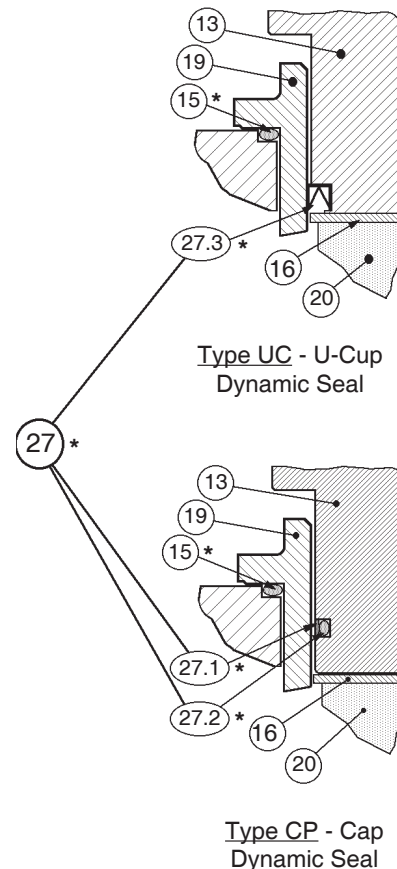
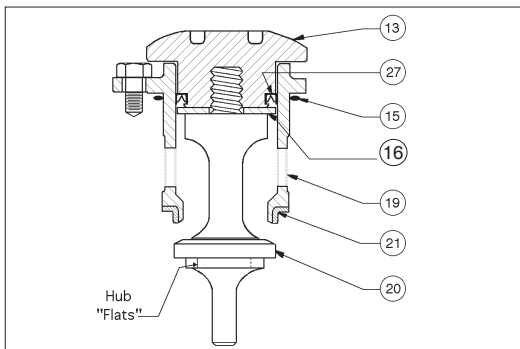

Figure 1: Dynamic Side Seals
Figure 2: Assembled ITA, with "UC" Dynamic Side Seal
6. A detailed view of the dynamic side seal parts is shown in Figure 1; an assembled ITA in Figure 2; and a cross-sectional drawing of the entire regulator is shown in Figure 3.
1. To Disassemble the ITA (See Figure 2):
- a. Hold the lower part of the valve plug (20) in a bench vise; grasp in "smooth jaws" directly under plug's (20) seating disc portion on hub "flats" provided. Do not hold on the machined surface in the plug's (20) spindle area.
- b. Using a special double-posted spanner wrench fitting, (to order see NOTE in Section IX Parts Ordering Information), turn the piston-guide bearing (13) CCW to loosen. The piston-guide bearing (13) may be removed by hand after loosening.
- c. Remove ITA from vise. Pull the valve plug (20) down and out through the cage's (19) bottom opening.
- d. Examine the components (27.1, 27.2, 27.3) of the dynamic side seal (27) mechanism to determine if significant leakage was occurring. If the dynamic side seal shows signs of significant leakage, determine if operating conditions are exceeding pressure, pressure drop, or temperature limits.
- e. Remove dynamic side seal (27) components and discard. Special care should be taken when using "tools" to remove the components to ensure that no scratches are made to any portion of the piston-guide bearing (13) groove.
- f. Remove the shim (16) from within the cage (19).
- g. Remove seat ring (21); examine for signs of leakage. If seat ring shows signs of significant leakage, determine if operating conditions - pressure, pressure drop, or temperature exceed design limits.
1. Installation of dynamic side seal (27) (See Figure 1):
1. Position u-cup seal (27.3) over lower circumference of piston-guide bearing (13). Ensure the u-cup seal (27.3) is oriented with the center-open-downwards as shown in Figure 1, as the u-cup seal (27.3) depends upon the P1-Inlet pressure to activate proper sealing action.
2. Insert shim (16) into cage (19) and allow to rest inside the cage (19).
3. Position piston-guide bearing (13)
2. Place properly oriented seat ring (21) onto its shoulder at the lower end of cage (19).
- a. Insert valve plug (20) upwards through lower end of cage (19) and through the center hole of shim (16).
- b. Engage valve plug (20) with piston-guide bearing (13) threads and finger tighten.
- c. Place ITA into a vise with smooth jaws and grasp at hub "flats" location on the valve plug (20) that is not in the "spindle" zone. (See Figure 2.)
- d. Using a special double-posted spanner wrench fitting (to order see NOTE in Section IX, Parts Ordering Information), tighten the piston-guide bearing (13) to the valve plug (20) with 30 - 50 ft-lbs (41-69 Nm). Do **NOT** allow valve plug (20) to rotate against seat ring (21) during tightening.
1. Insert the return spring (22) into the body (23).
2. Fit cage O-ring seal (15) into the body (23) groove.
3. With the ITA held manually in the closed position, insert ITA and cage (19) into body (23).
4. Properly align all three cage bolt (18) holes as there is only one proper alignment possible. Apply a downward force to the top of the cage (19) until the ITA is lowered sufficiently to engage the cage bolts (18) with washers (17) into the body (23). Engage all of the cage bolts (18), then tighten the cage bolts in alternating one-half revolution increments to pull down the ITA evenly. **ENSURE THE ITA DOES NOT BECOME WEDGED AS IT IS SLID INTO THE BODY.** Tighten the cage bolts (18) to a torque value of 13-15 Ft-lbs (17.5-20.5 Nm).
5. Units with CTFE or VTFE seat ring (21): Due to the relative "hardness" of the CTFE and VTFE material, to obtain the best possible shutoff it is necessary to generate a "coined" seating chamfer.